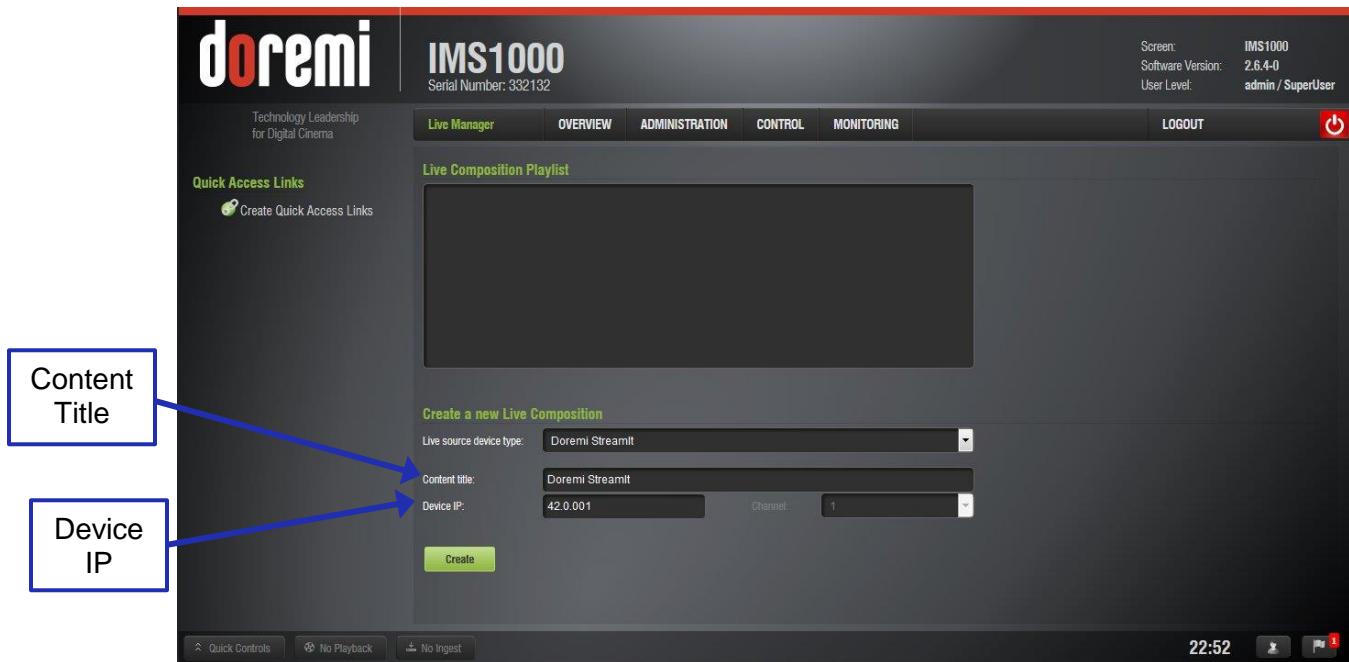

Figure 188: CPL Title and IP
- Enter the live CPL content title in the Content Title field (Figure 188).
- Enter the IP address of the external Live Event in the Device IP field (Figure 188).